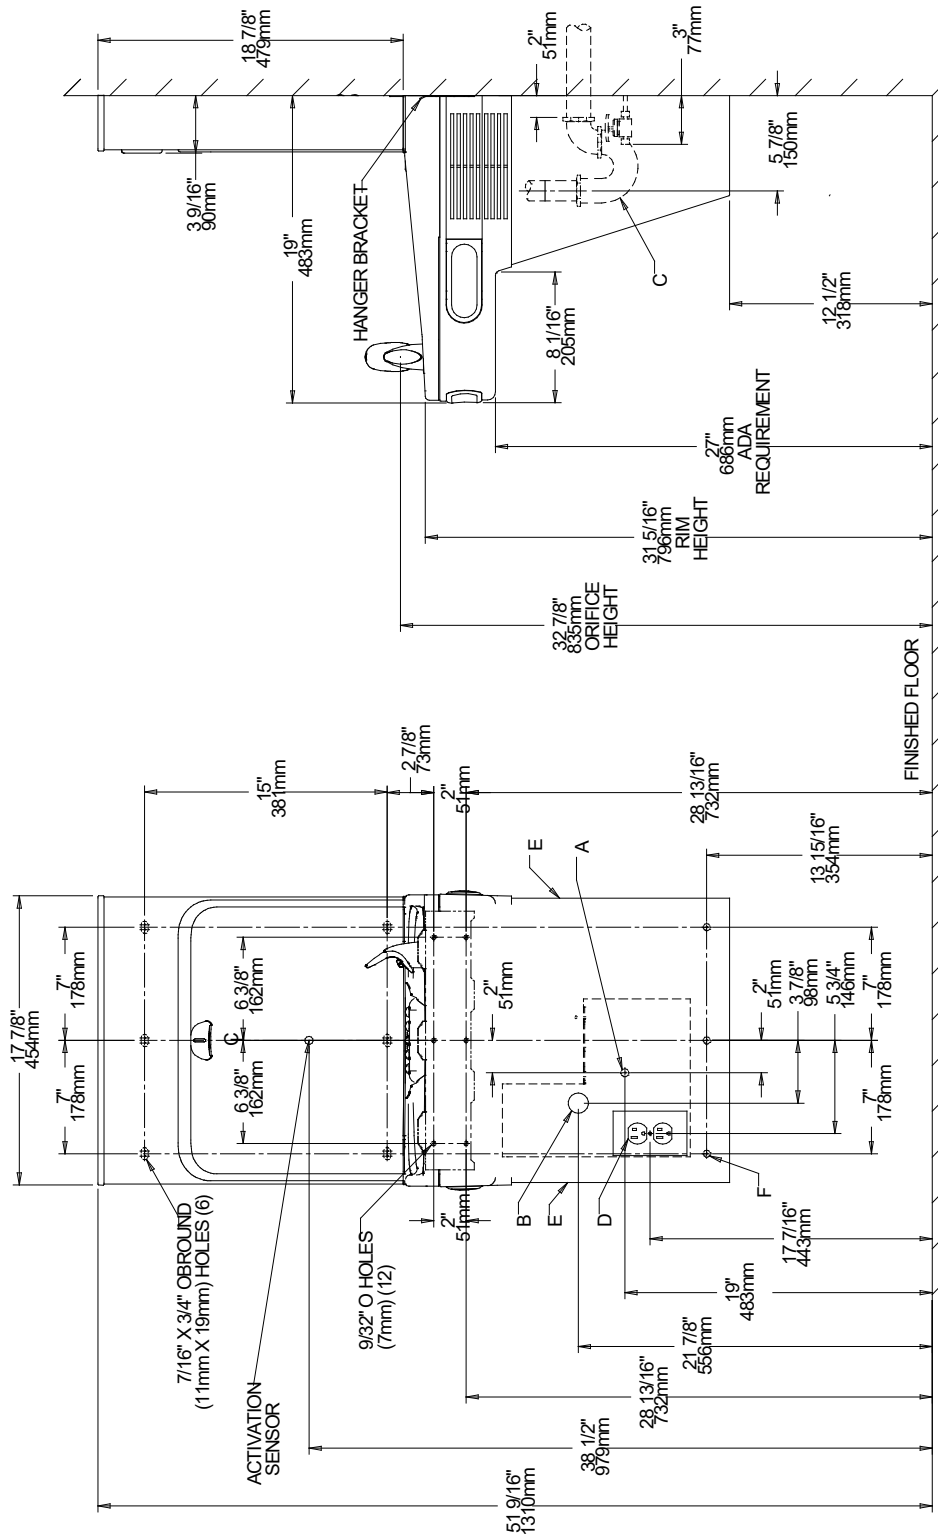

Fig. 2
- 1) Remove hanger bracket fastened to back of cooler by removing one (1) screw.
- 2) Mount the hanger bracket as shown in Figure 2.
- 3) Hang the cooler on the hanger bracket. Be certain the hanger bracket is engaged properly in the slots on the cooler back as shown in Figure 2.
- 4) Remove the four (4) screws holding the lower front panel at the bottom of cooler. Remove the front panel by pulling straight down and set aside.